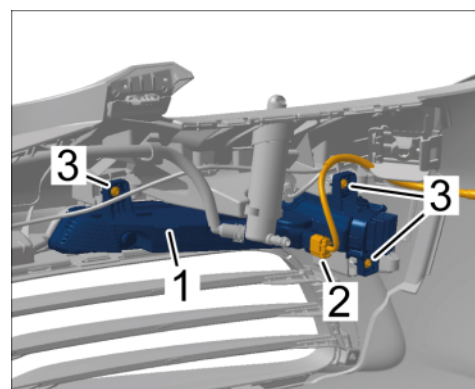

Figure 26
- 5.7.4 Unscrew screws ⇒ Figure 26 -3- and remove auxiliary headlight ⇒ Figure 26 -1-.